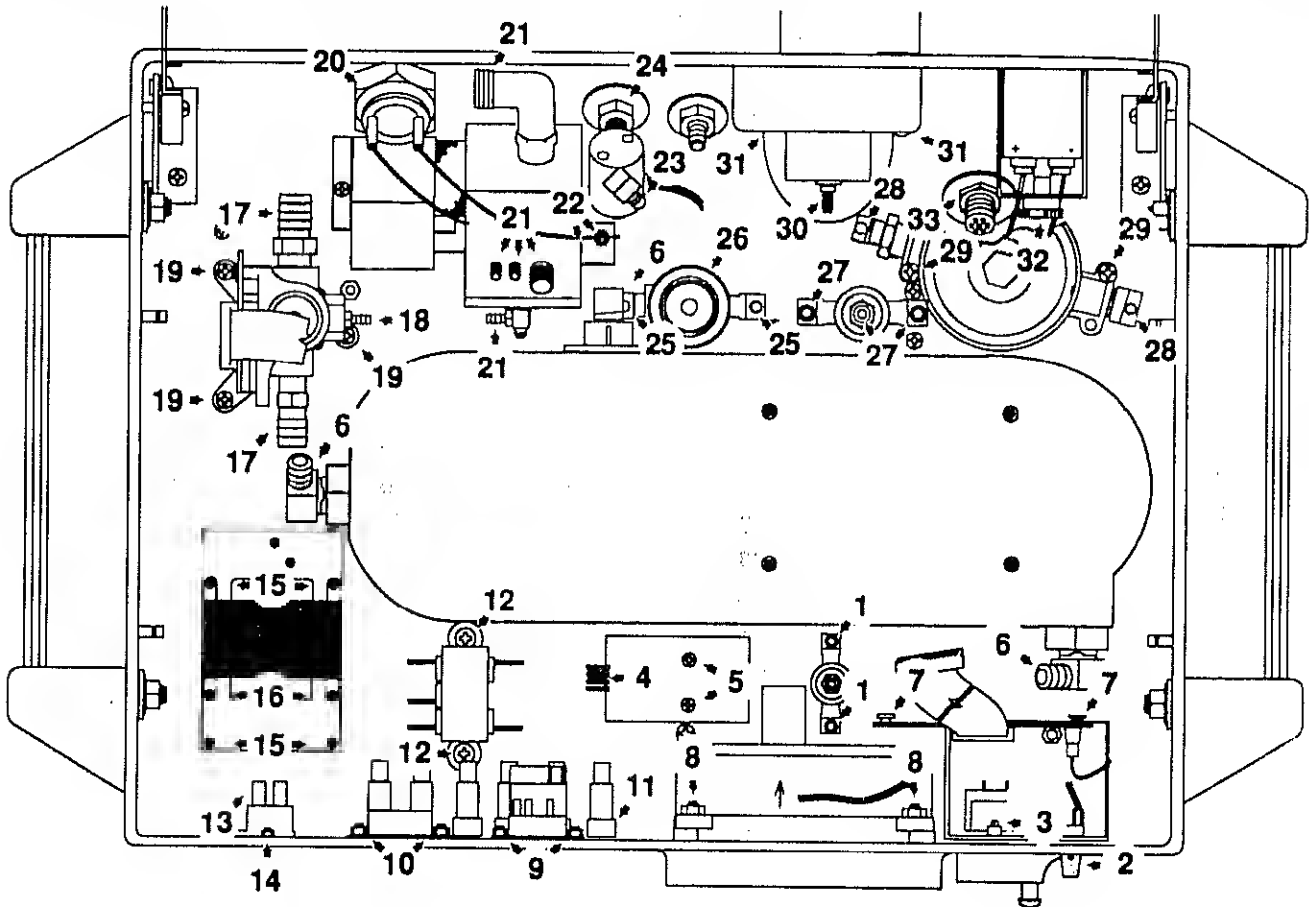

Figure 8-6
2. After marking for correct orientation, remove connector J45 from the PCB (Figure 8-6, Ref. 4).
3. Remove the two phillips screws securing the PCB to the ventilator chassis (Figure 8-6, Ref. 5).
2. Remove the three pneumatic connections to the Accumulator Assembly (Figure 8-6, Ref. 6).
2. Remove the 4 fan mounting screws (Figure 8-6, Ref. 8).
2. Remove the two phillips screws (Figure 8-6, Ref. 1) securing the mounting bracket to the chassis of the ventilator.
2. Remove the Alarm Loudness knob (Figure 8-6, Ref. 2) using an allen wrench.
3. Remove the two outlet mounting screws (Figure 8-6, Ref. 10) and remove the outlet from the inside of the ventilator.
3. Remove the two mounting screws (Figure 8-6, Ref. 3) using an allen wrench.
5. Using an allen wrench, remove the mounting screws and nuts from the Power Entry Module (Figure 8-6, Ref. 9).
3. Using an allen wrench, remove the mounting screws and nuts from the receptacle (Figure 8-6, Ref. 10).
4. Using an wrench, loosen and remove the retaining nut and remove the holder through the back of the unit (Figure 8-6, Ref. 11).